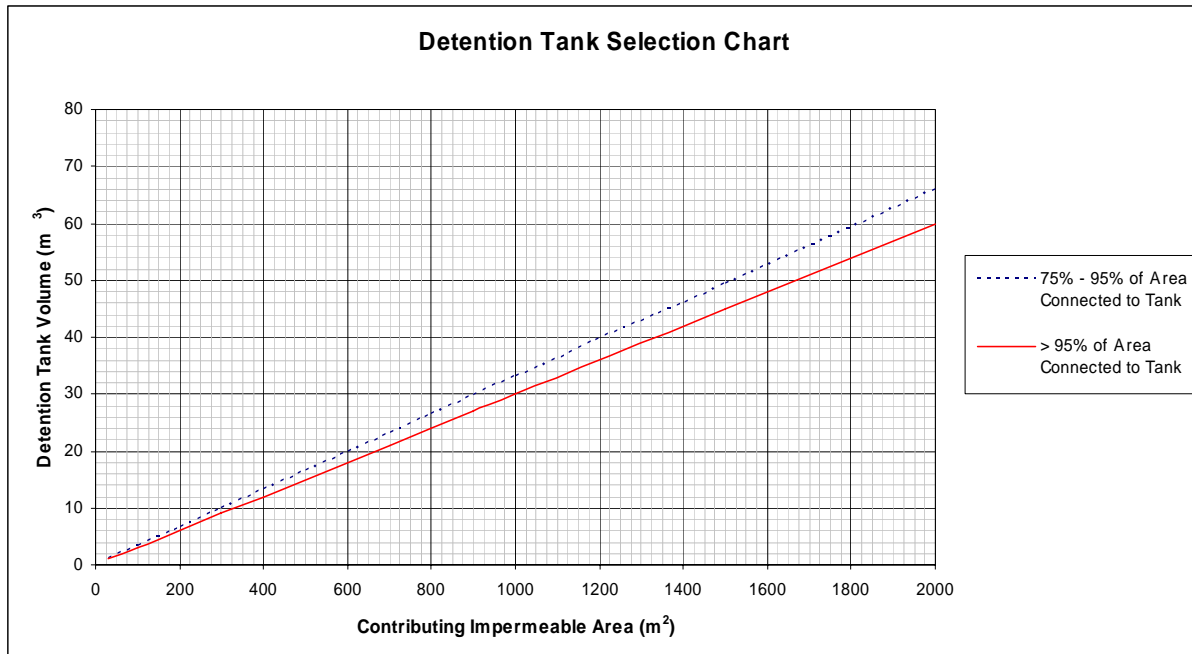

Figure 7.3 : Detention Tank Selection Chart
1. **Tank volume** : The tank size will depend on the area that requires mitigation and the proportion of the impervious area that is able to be drained via the tank. To manage peak flows from a 10% (10 Yr) and 50% (2 yr) AEP rainfall events you require approximately 3m^3 of storage for every 100m^2 of catchment area. The required size can be read off using the solid line on Figure 7.3 below.
can read off the required size using the dashed line on Figure 7.3. In this situation the Contributing Impermeable Area refers to the total area that is being mitigated.